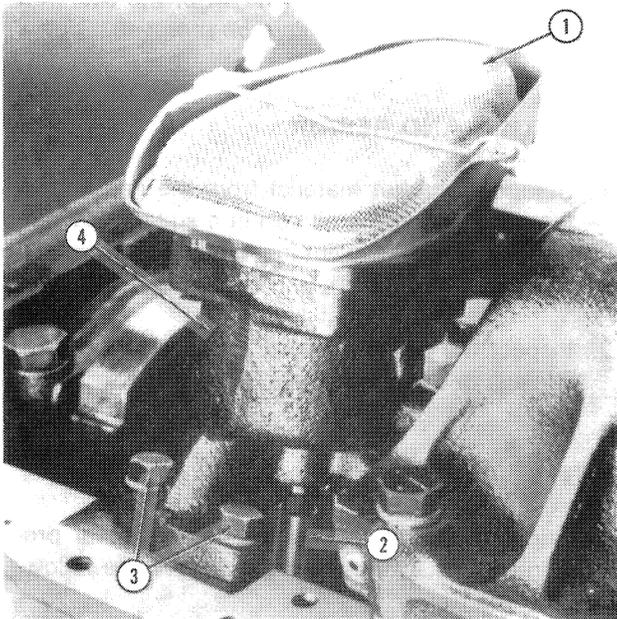

Figure 34
2. Remove the oil pump with the filter screen, Figure 34. Withdraw the intermediate shaft.